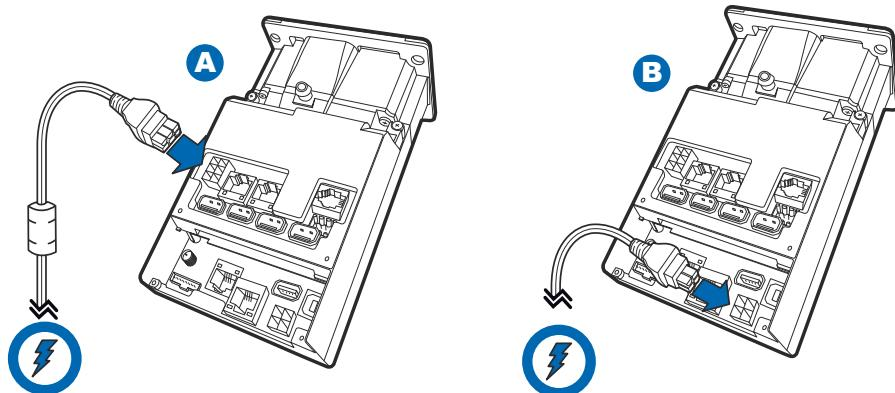

Figure 19 Power Connection Options for the UX300 Series
- With a 4-pin cable (VPN CBL159-308-01-A) from the power port on the persistent board (see A in Figure 19), or
- With a 6-pin cable (VPN CBL159-309-01-A) from the power port on the model-dependent board (see B in Figure 19).